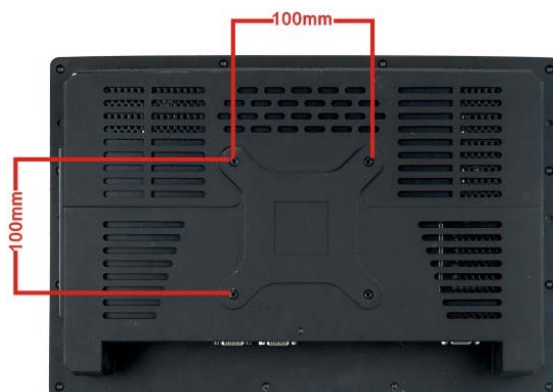

Figure 3-24: Arm Mounting Retention Screw Holes
Step 3: Align the retention screw holes on the mounting arm interface with those in the flat panel PC. The AFL-HM55 Series arm mount retention screw holes are shown in **Figure 3-24**.